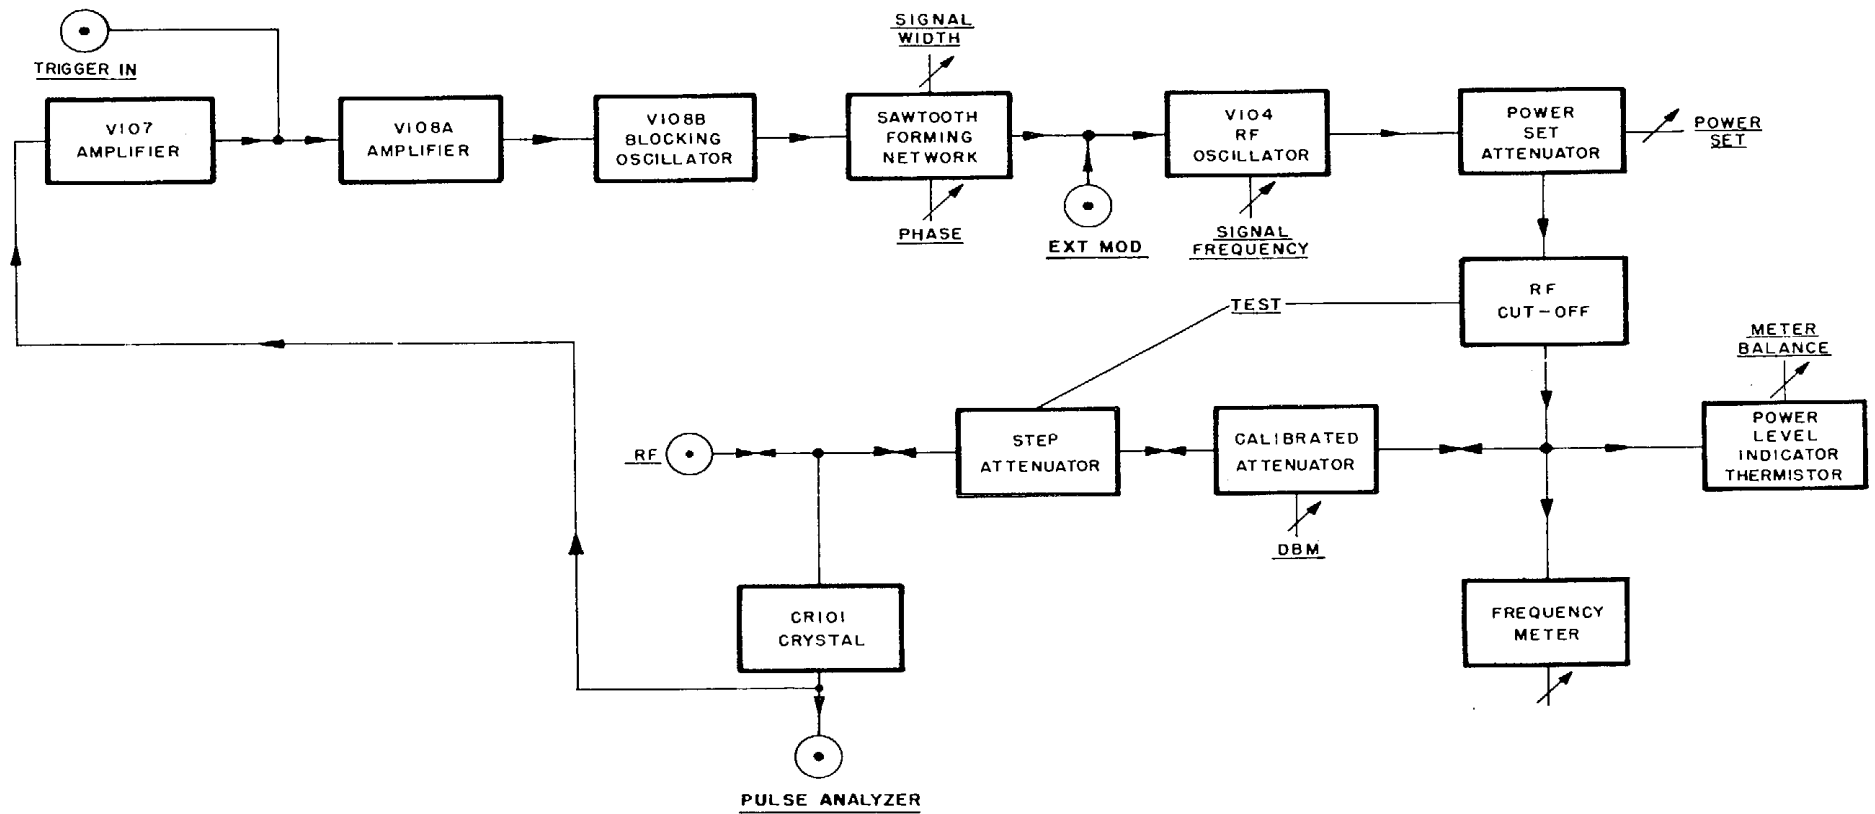

Figure 2-1. Block Diagram of Test Set TS-147D/UP
a. GENERAL. --A block diagram of Test Set TS147D/UP is given in figure 2-1. The output signals are generated by the reflex klystron oscillator. They are either frequency modulated by the sawtooth voltages supplied by the triggered sweep circuit, or pulse modulated by the voltages supplied by an external pulse circuit. When the signals are frequently modulated, synchronism is obtained through one of two methods: by supplying trigger voltages at the TRIGGER connector, or by the RF pulses detected by the crystal detector and amplified by the trigger amplifier.
(1) The test set can measure RF power at the RF connector from +7 dbm to +30 dbm (1 watt) average and from -7 dbm to -85 dbm average. This is accomplished by means of two attenuators and a thermistor bridge wattmeter circuit.
(2) The range of +7 to +30 dbm is for RF signals applied to the test set and the range of -7 to -85 dbm is for signals supplied by the test set.
(3) The thermistor bridge circuit is designed to read a reference power level (1 milliwatt) and the two attenuators are calibrated. Therefore, by reducing an unknown incoming RF signal power to one mw by means of the calibrated attenuators the power input at the RF connector can be calculated.
(4) Similarly the power output from the klystron oscillator to the attenuator and the thermistor bridge